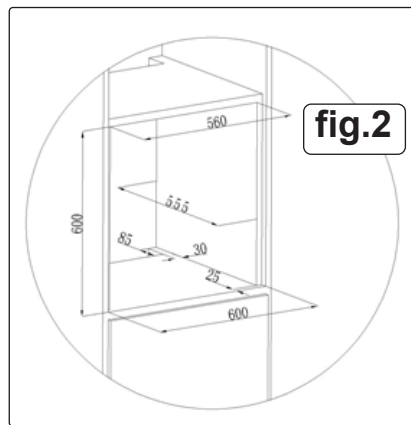

fig.2
- **VENTILATION REQUIREMENTS SEE FIG.2**